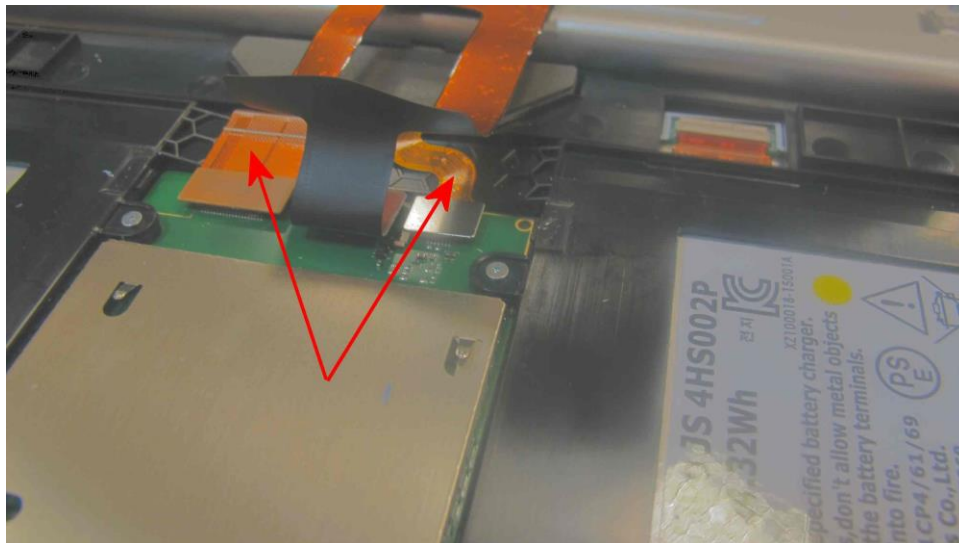

Figure 19.
- Install the new battery pack ensuring the ribbon cables are routed over the battery pack, reconnect the ribbon cable connectors—figure 19.